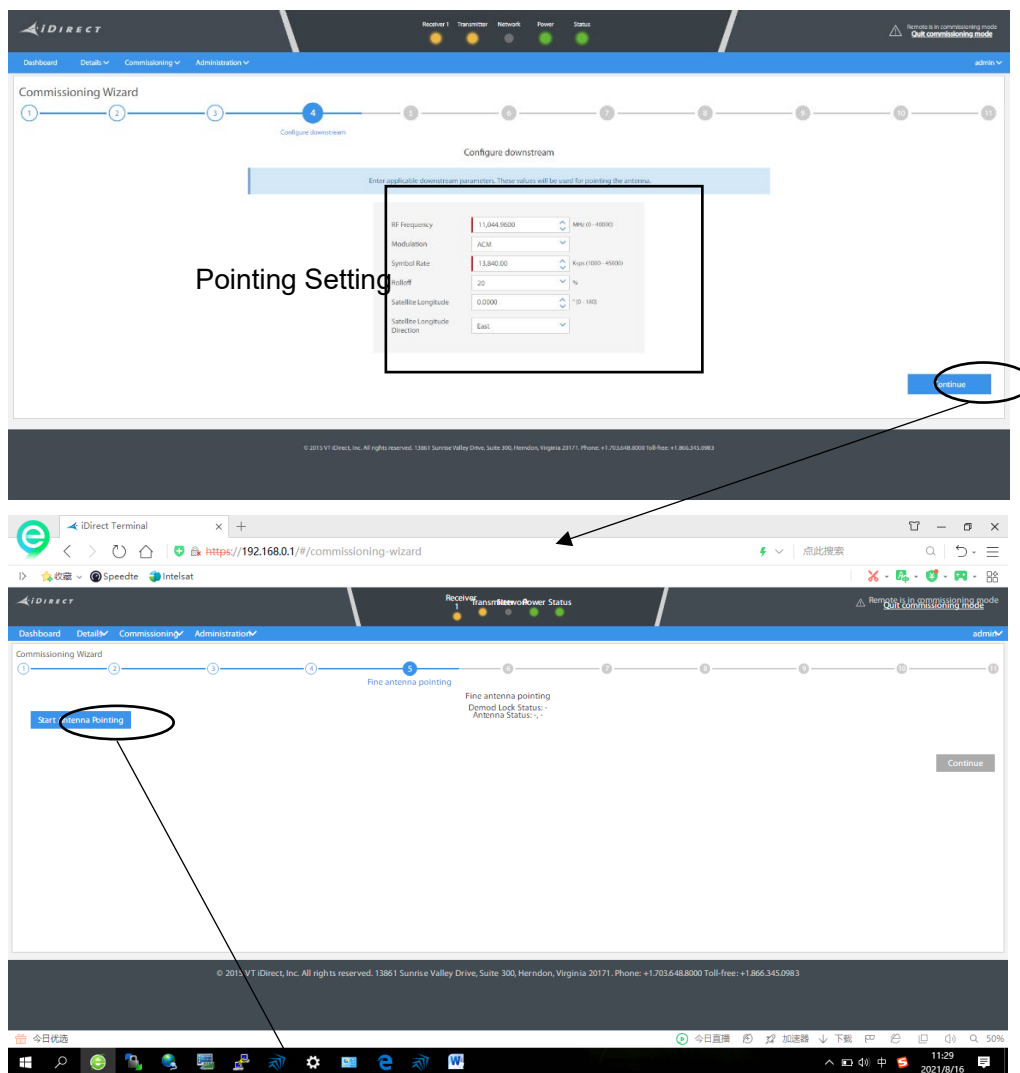

Figure 6-9 Modem Web UI
- On this page, you can set parameters such as RF frequency, symbol rate, modulation method, attenuation, and satellite longitude. After setting the parameters, click the "Continue" button, as shown in Figure 6-8. Click the "Start Antenna Pointing" button to start satellite alignment, as shown in Figure 6-9.